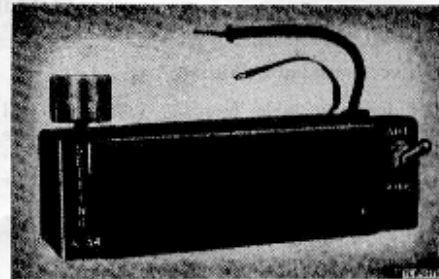

Figure 63. (Added.) Phantom Antenna A-34, front view.
Phantom Antenna A-34 is designed for use with Radio Set SCR-694-C. When necessary to adjust or test the transmitter of the radio set during periods of radio silence, the phantom antenna can be used in place of the regular antenna. The phantom antenna (fig. 63) is self-contained in a metal box which measures approximately 6½ inches by 3 inches by 2 inches.
e. Connect the ground lead of the phantom antenna (braided conductor in fig. 63) to the frame of the radio set. This can be done by removing one of the mounting screws above the crystal cover (fig. 2), passing the screw through the lug on the end of the ground lead, and then replacing and tightening the screw.